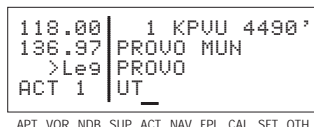

Figure 4-39
1. Pull the right inner knob to the "out" position and turn it to view each of the waypoints in the order they are contained in the flight plan (figure 4-39).